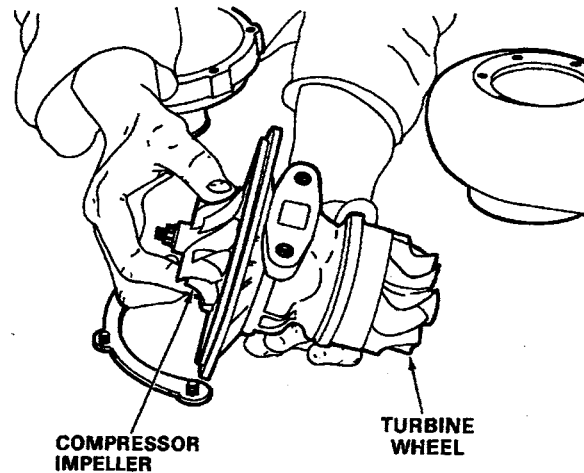

Figure 2.17. Wheel Inspection
2. Visually inspect the compressor impeller and turbine wheel for blade erosion, bending, breakage or deposits. Refer to Figure 2.17. Replace as required.